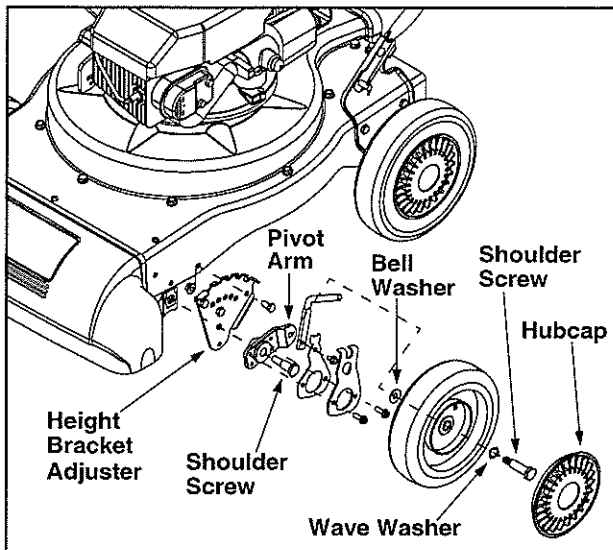

Figure 14
- Remove the front hubcaps, shoulder screws, wave washers, and bell washers that attach to the front wheels. See Figure 14.